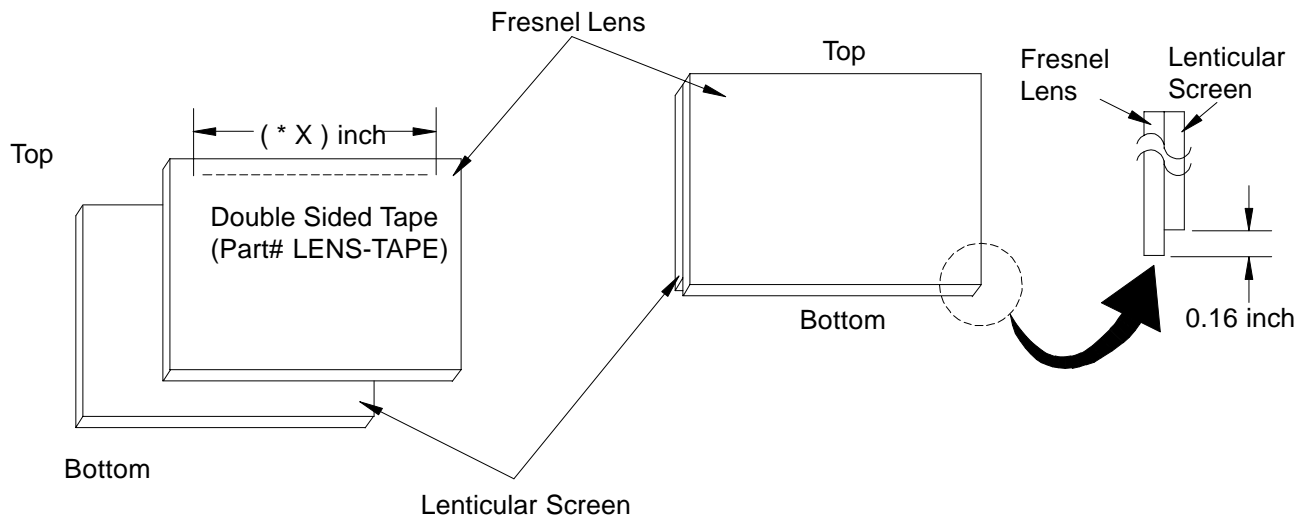

Figure 2-2
1. Apply double coated tape (Part # LENS-TAPE) along the top front edge of the Fresnel Lens as shown in *Figure 2-2*. Refer to *Table A* and *Table B* for proper tape length.
2. Place the Fresnel Lens on top of the Lenticular Screen and apply pressure at the top edge to bond them together as shown in *Figure 2-2*.